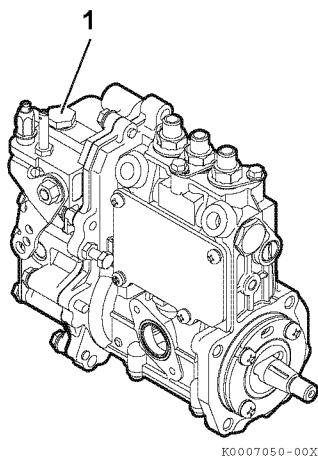

Figure 7-16
When installing a new or repaired fuel injection pump, it is important to add engine oil to the fuel injection pump to provide lubrication for initial start-up. Add 5 to 7 oz (150 to 200 cc) of clean engine oil to the fuel injection pump at the fill plug (**Figure 7-16, (1)**) located in the upper outside section of the governor housing.